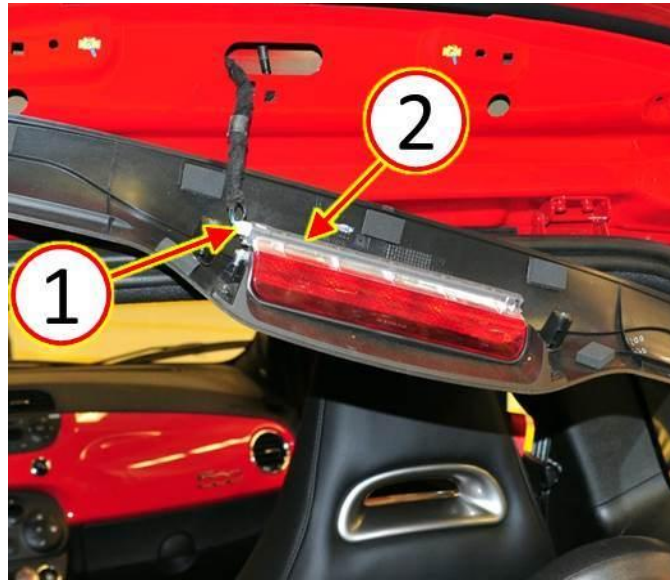

Fig. 6 Connect CHMSL Electrical Connector
8. Connect the CHMSL electrical connector (1) to the CHMSL (2) (Fig. 6).